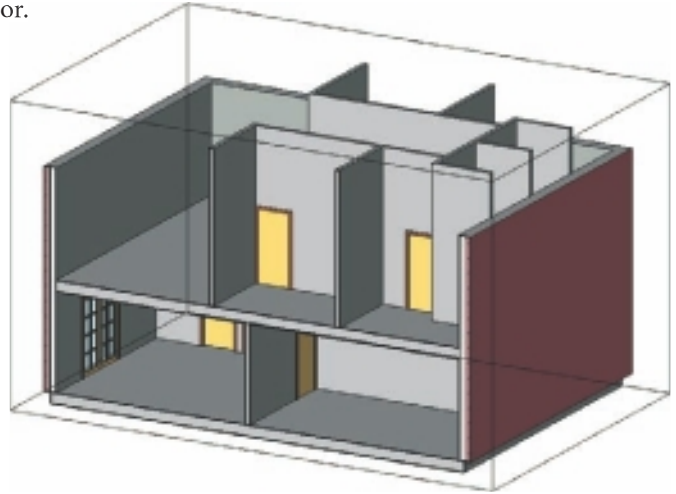

Figure 3.93
7. On the Modify | Create Floor Boundary tab's Mode panel, click the Finish Edit Mode button (the check mark) to create the floor. Revit will display a dialog box and ask, "Would you like the walls that go up to this floor's level to attach to its bottom?" Click Yes to have the wall attach the bottom of the floor (Figure 3.93).